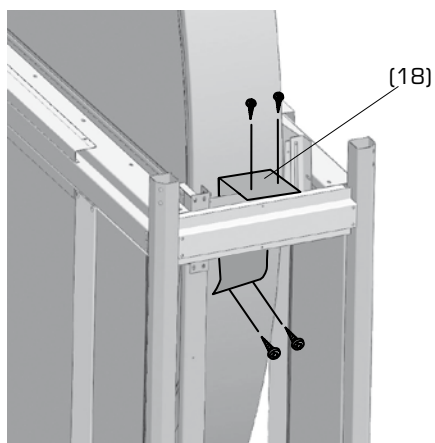

Fig. 28. Remove the transport safety devices (18) on the rotor half, there is one on each side.
Fig. 27. Before the retaining straps can be tightened, the lock nuts (4) that have been holding the lower rotor half must be removed. Remove the assembly locking devices, see Fig. 28. Rotate the rotor so that the lock nuts are on the top when they are removed.